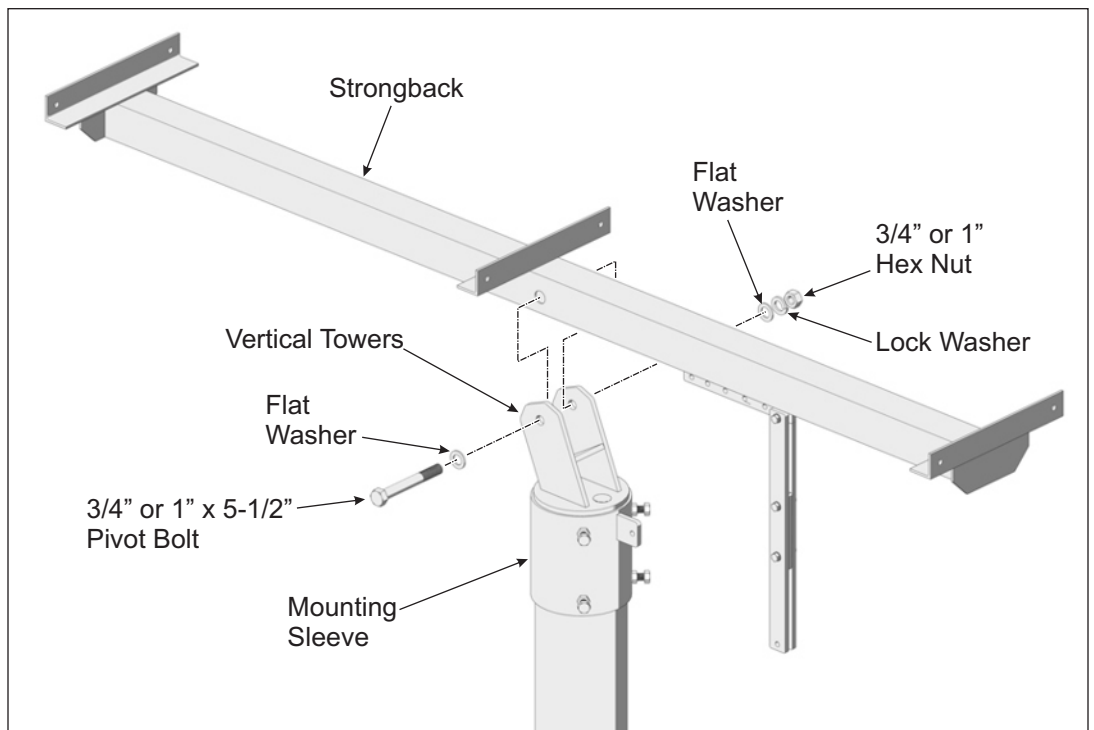

Figure 2-2: Installing the Strongback
- B. Remove the Pivot Bolt from the Mounting Sleeve and collect the 3/8" or 1/2" x 1-3/4" bolt, flat washers and lock washer needed to secure the Support Bar to its Pivot Tab on the Mounting Sleeve. (See Figures 2-2 and 2-3)